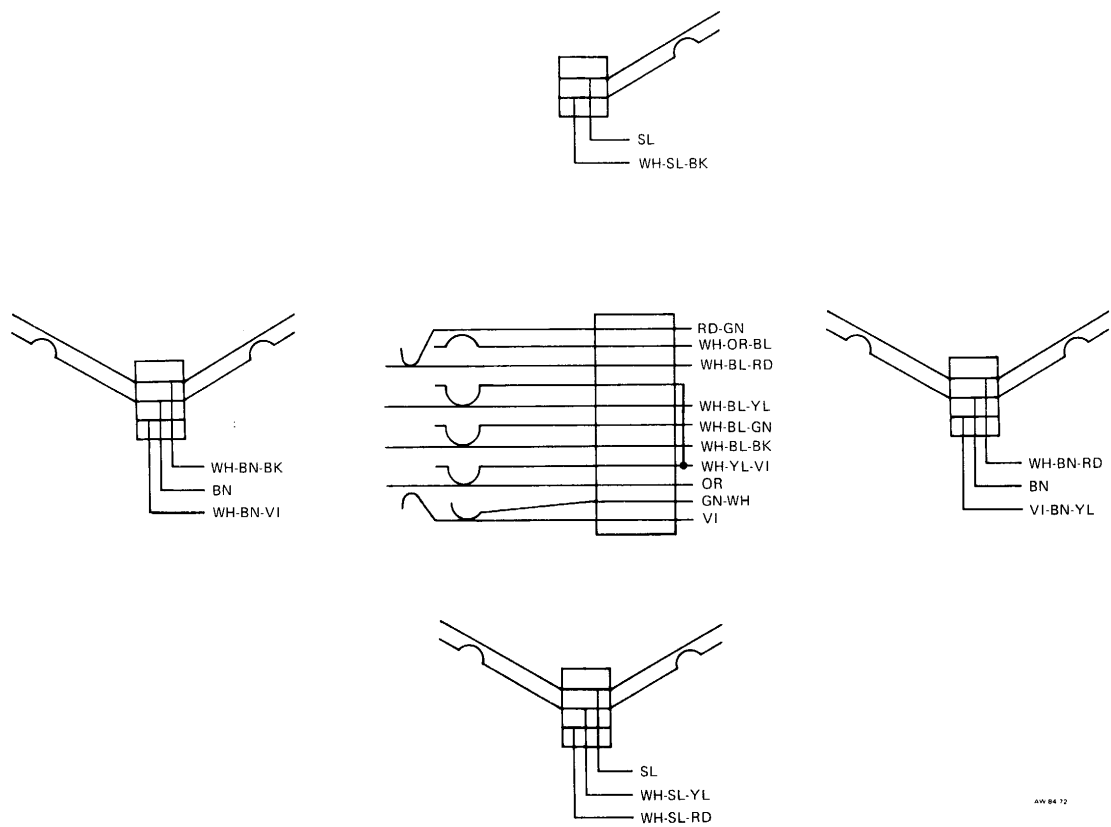

Figure 7: Model 36 Pushbutton Dial, Wiring Diagram
**Note:** Wires connecting the contact springs to the printed circuit board must be disconnected to remove the printed circuit board. (Refer to Figures 7 and 8.)